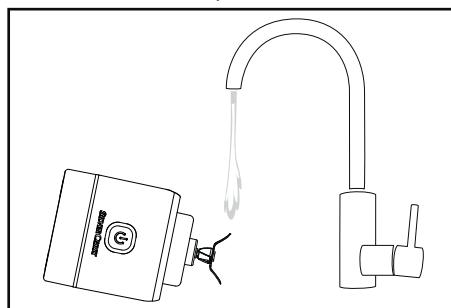

Fig. 2
① ATTENTION! Do not use abrasive or caustic cleaning agents. They can corrode the surface and irreparably damage the appliance.
- Rinse only the cross blade 5 carefully, if necessary using a scrub brush, under running water. Make sure that no water flows onto the motor unit 9, and do not immerse the appliance in water! Tilt the appliance so that only the cross blade 5 is in the water jet (see Fig. 2). Cleaning the appliance immediately after use helps to loosen food remains more easily.